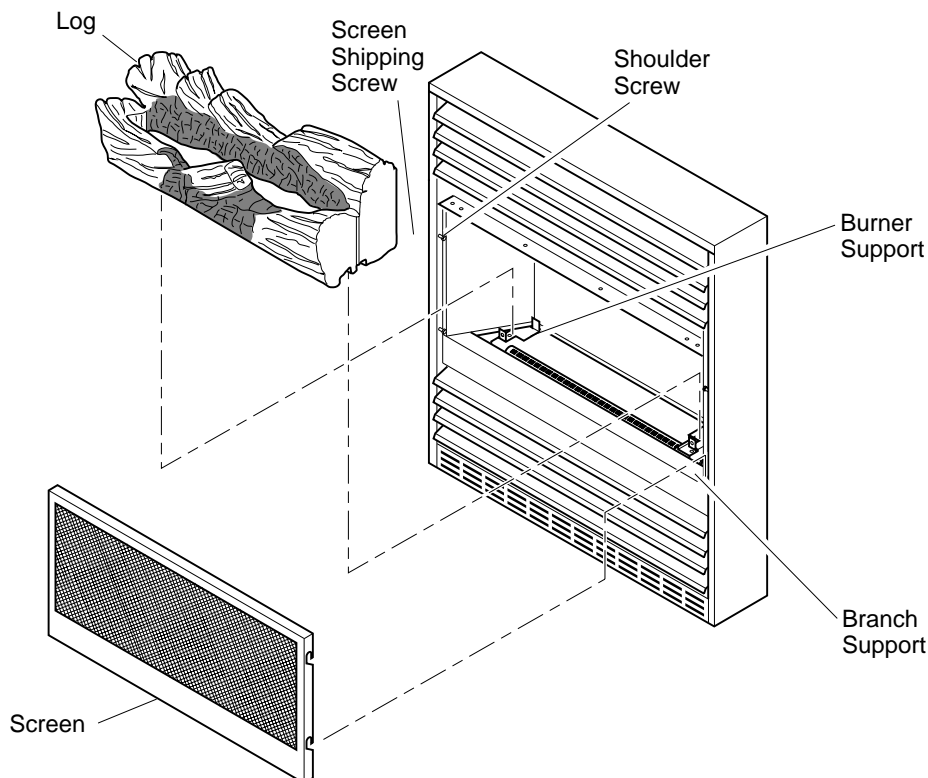

Figure 3 - Assembling Fireplace
4. Remove log packaging material and discard packaging. Gently place log set on burner support (see Figure 3). The log should fit flat against top of burner support and log locators fit into the slots under the log. Do not allow log to contact flame. If flame contacts log, soot will be created.